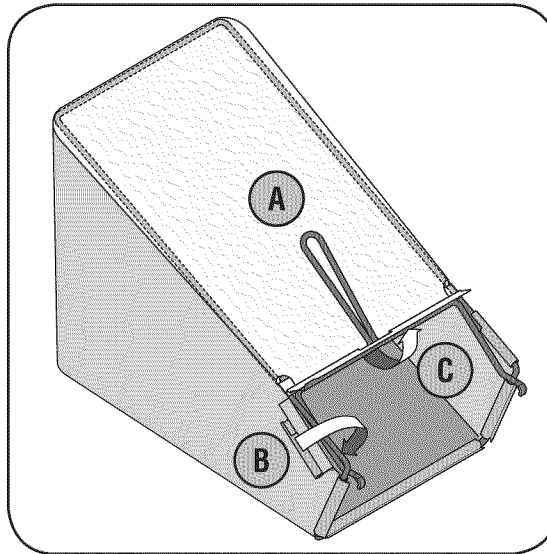

Figure 3-5: Assemble the grass catcher (if needed)
- a. Place bag over frame so that its black plastic side is at the bottom. Check that the bag is turned right side out before assembling (warning label will be on the outside). See Figure 3-5.